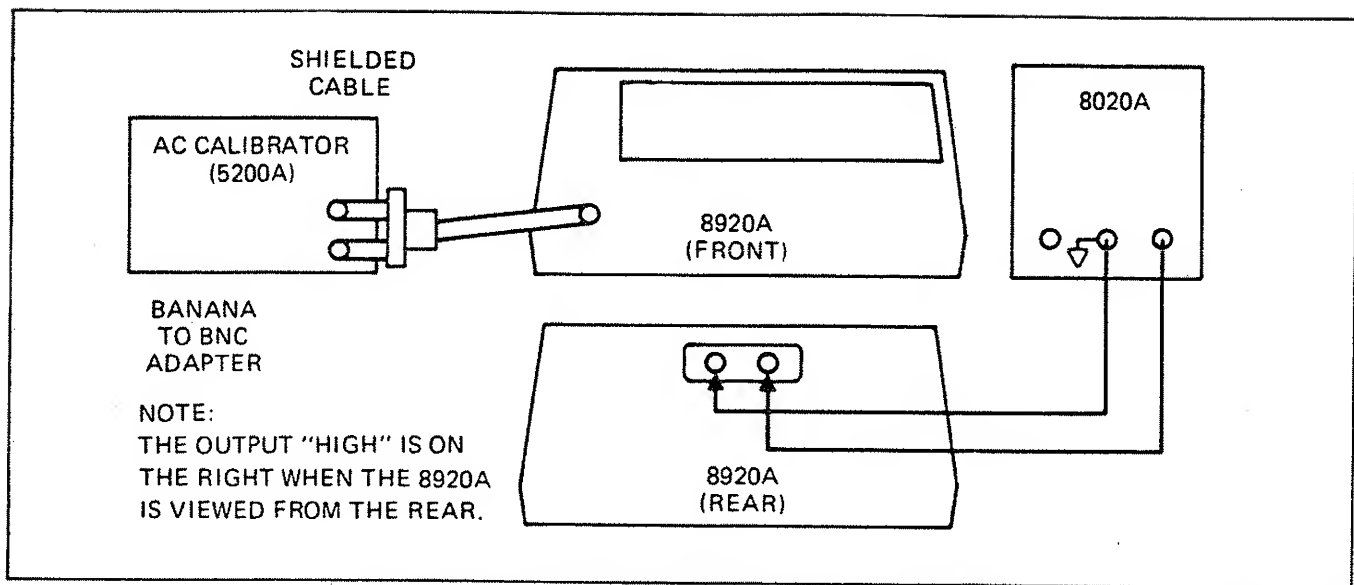

Figure 604-3. Logarithmic Analog Output Option Test Set-Up
1. Remove the 8920A's top cover, and set up the test equipment as shown in Figure 604-3.